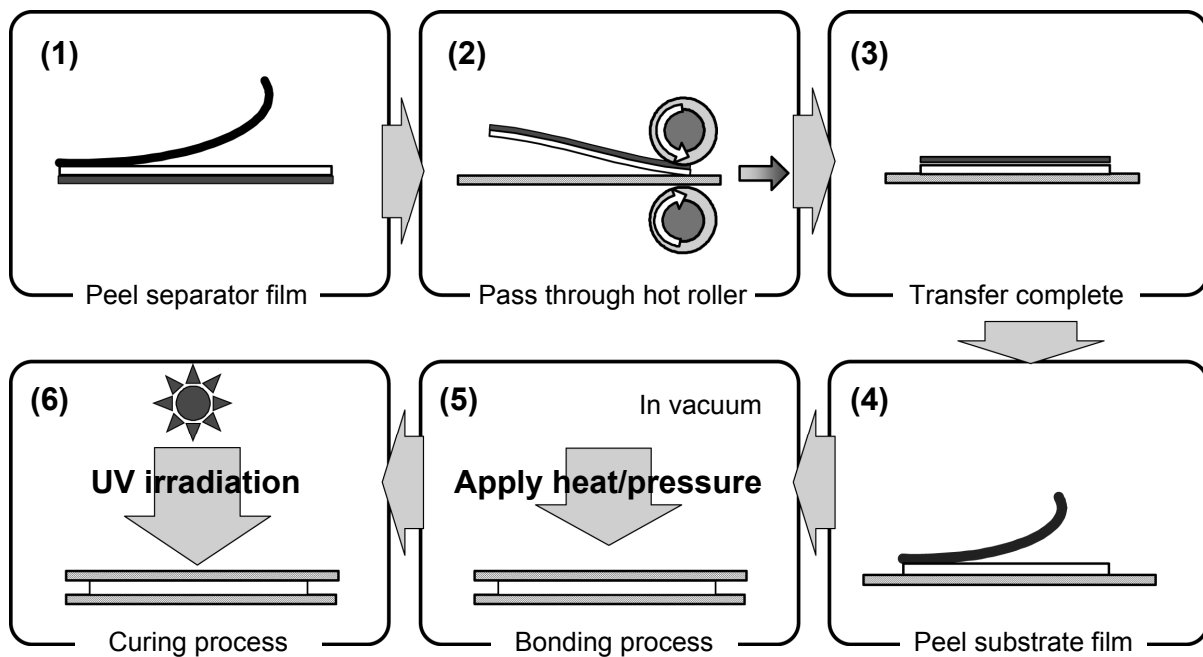

Figure 9. Step-by-step bonding with the TB1630
The three main steps in bonding with the TB1630 consist of the transfer, bonding, and curing processes. Figure 9 presents the steps that make up the bonding process.
##### 1. Transfer process [Figure 9, (1), (2), & (3)]
##### 2. Bonding process [Figure 9, (4) & (5)]
##### 3. Curing process [Figure 9, (6)]